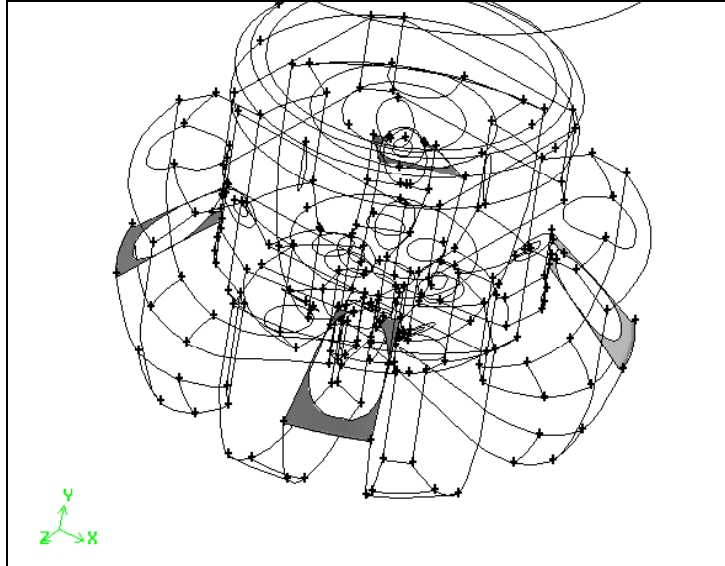

Figure 12-12: Faces on which to apply size functions
- c) In the **Faces** list box, select the four faces shown (shaded) in Figure 12-12.